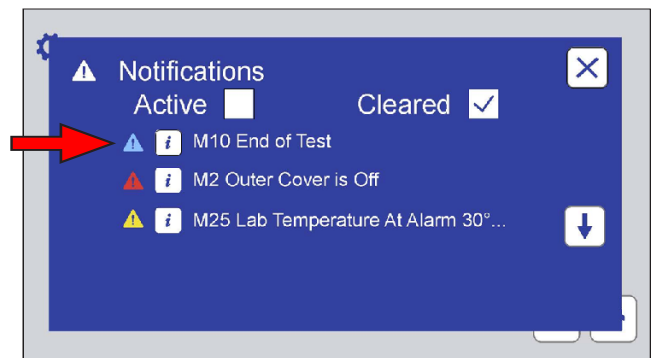

Figure 11.4b: The Notifications Screen lists notification information.
- The type, information icon, identification code (ex. M10), and name are displayed for each notification (Figure 11.4b).